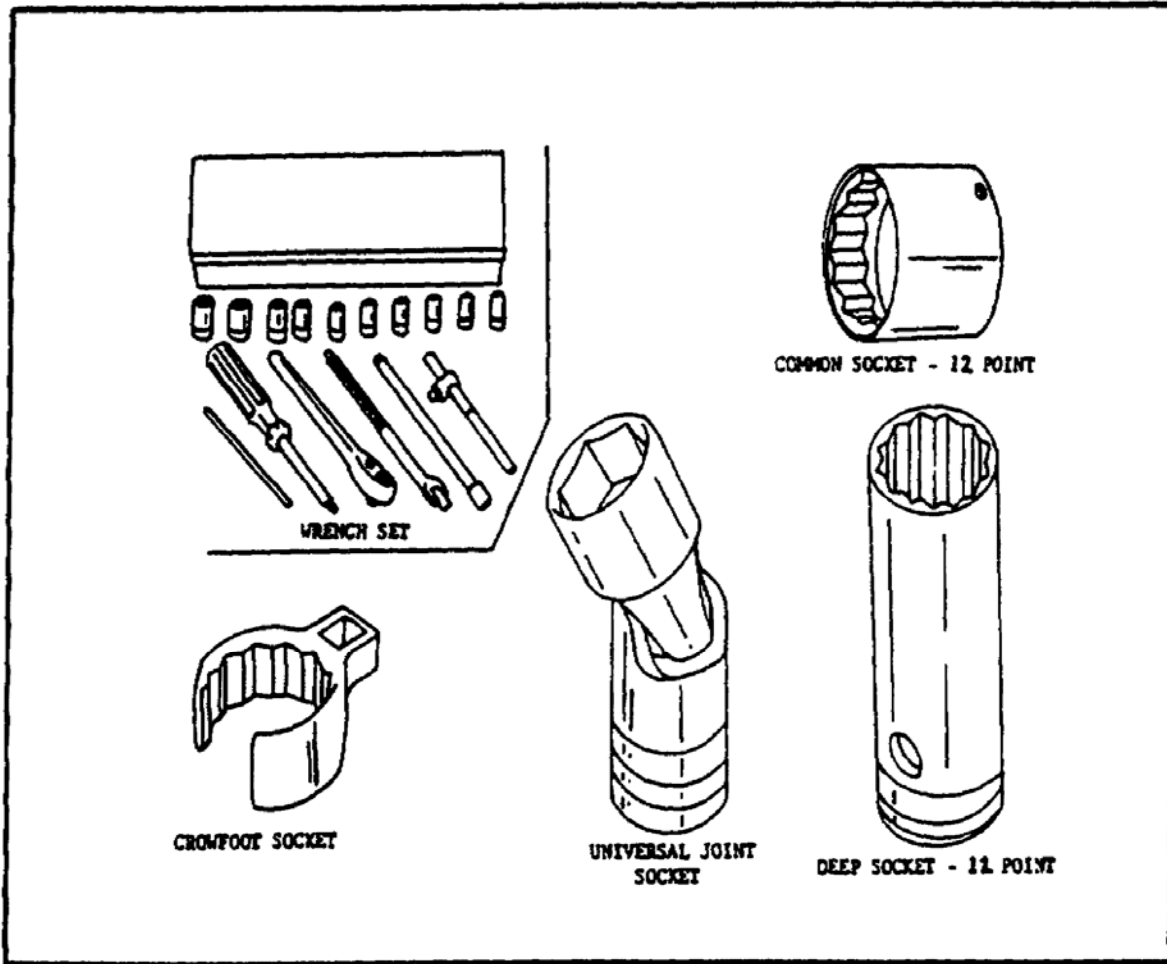
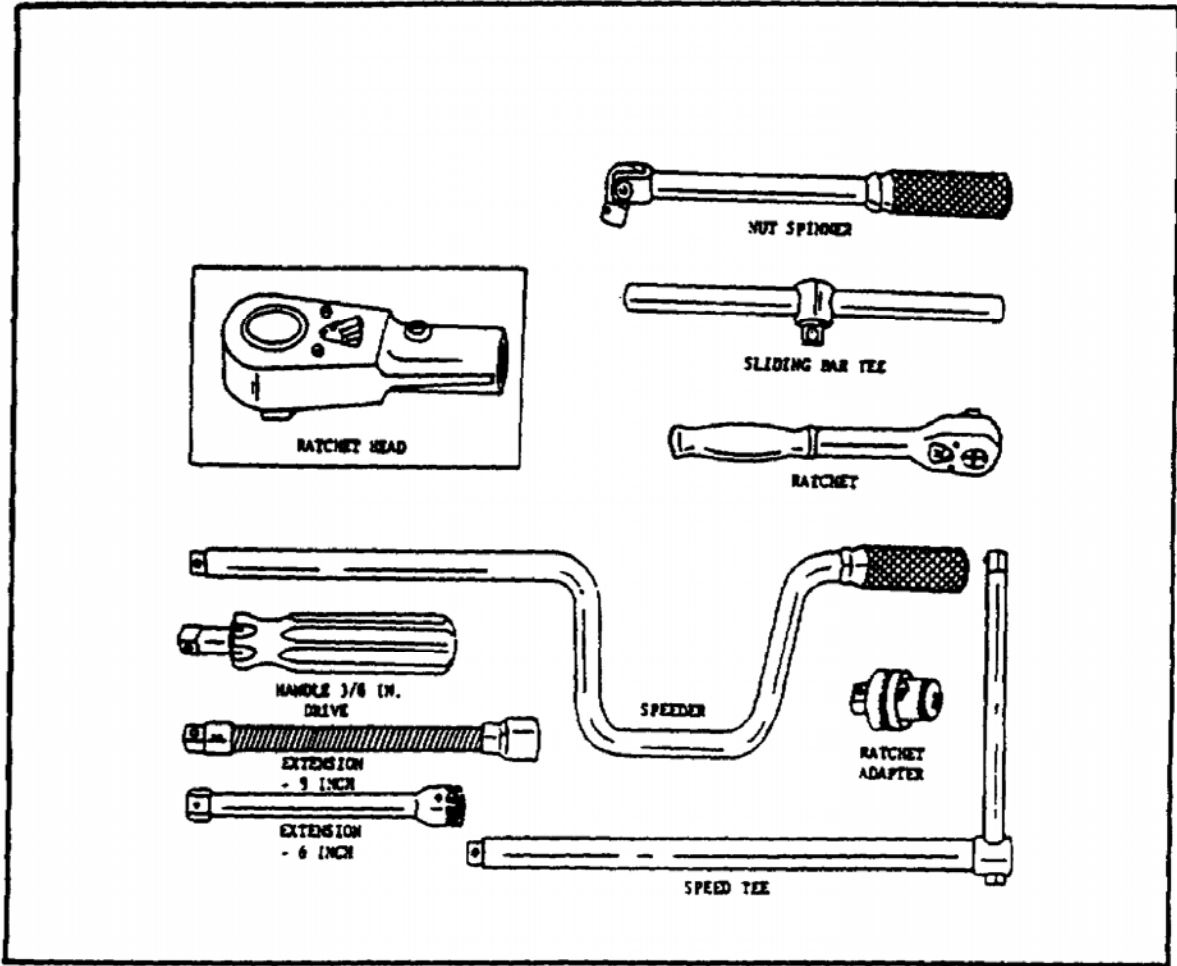

FIGURE 17. SOCKET AND CROWFOOT WRENCHES.
FIGURE 18. SOCKET WRENCH RATCHETS, HANDLES, AND EXTENSIONS.
(d) *Socket Wrenches.* The common socket wrench is boxlike and made as a detachable socket (figure 17) for various types of handles. A socket wrench set usually consists of various sized sockets, a ratchet (figure 18), a sliding bar tee, a speeder, a speed tee, a ratchet adapter, a nut spinner, a 3/8 inch drive handle, and extensions. Socket wrenches have two openings, one a square hole which fits the handles and the other a circular hole with notched sides to fit the bolt or screw head or nut to be turned. The square hole is made 1/4, 3/8, 1/2, 3/4, or 1 inch in diameter; each must be driven with the matching drive or speeder handle. The notched opening may have 6, 8, or 12 points. Socket wrenches are the fastest wrenches to use, since the ratchet handle permits the socket to remain on the nut or bolt and the handle does not have to be removed from the socket for turning. Socket wrenches are sized from 5/32 to 3 1/8 inches in steps of 32nds, 16ths, or 8ths of an inch.
(f) *Crowfoot Wrenches.* A crowfoot wrench (figure 17) has an open-end in the box containing notches and a square hole which fits the handle. This configuration makes the crowfoot wrench the best wrench to use on a nut located in a very tight place. They are used in conjunction with socket wrench handles having a 3/8 or 1/2 inch square drive. They range in size from 3/8 to 2 1/2 inches.
(3) *Socket Wrenches.* To use a socket wrench, select the size of socket that fits the nut or bolt to be turned and push it onto the handle which is best suited to the job. If there is room to swing it, use the ratchet handle. The handle may be made to ratchet in one direction for tightening, and in the other direction for loosening work. It is necessary only to swing the handle back and forth in order to turn the nut in the desired direction. The socket need not be raised from the nut at the end of each swing. A nut spinner handle (figure 18) also saves time. When a tight nut is to be loosened or a nut is to be set up, the handle can be swung at right angles to the socket to provide the most leverage. At the point where the nut turns easily, the handle can be swung to a vertical position and twisted rapidly between the fingers in the same manner as a screwdriver. A universal
joint socket wrench (figure 17) makes it possible to turn nuts where a straight wrench could not be used unless some part of the machine or equipment is removed.